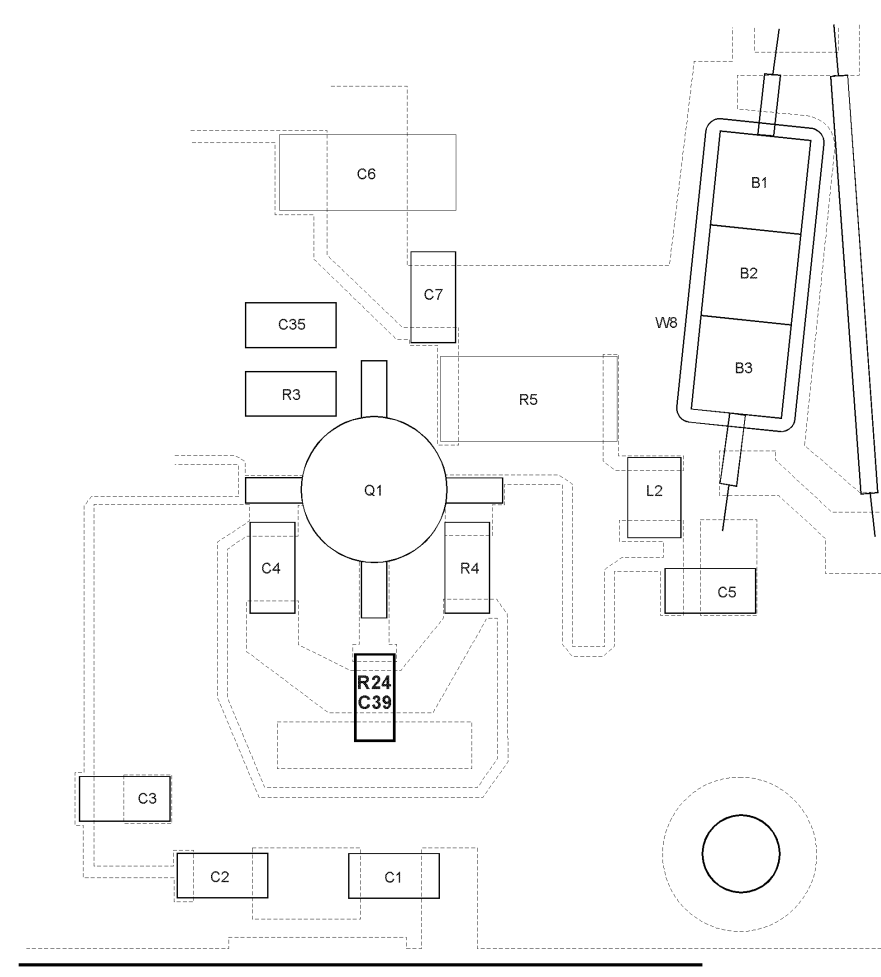

Figure 1
3. Replace R3 with item 2.
4. Install item 2 (R24) as shown in fig. 1. Install item 1 (C39) on top of item 2.